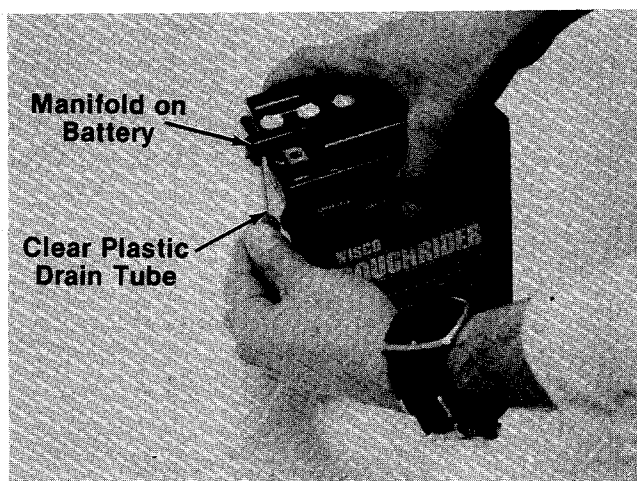

FIGURE 9.
3. Place one end of clear plastic drain tube on manifold of battery. See figure 9.